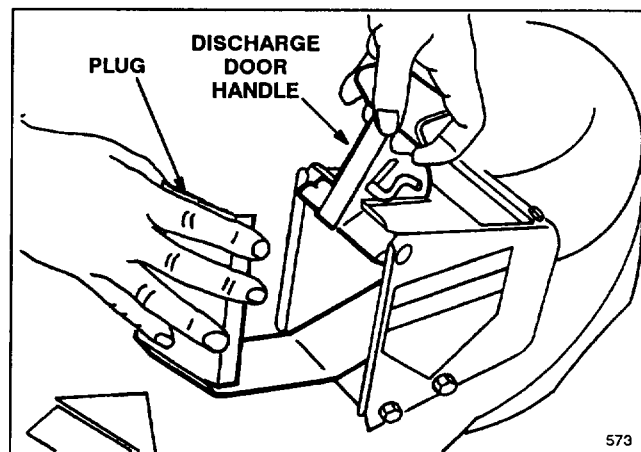

Figure 17
1. Open the discharge door by moving handle rearward (Fig. 17). Hold the discharge door handle to prevent the spring-loaded door from closing while inserting the plug.